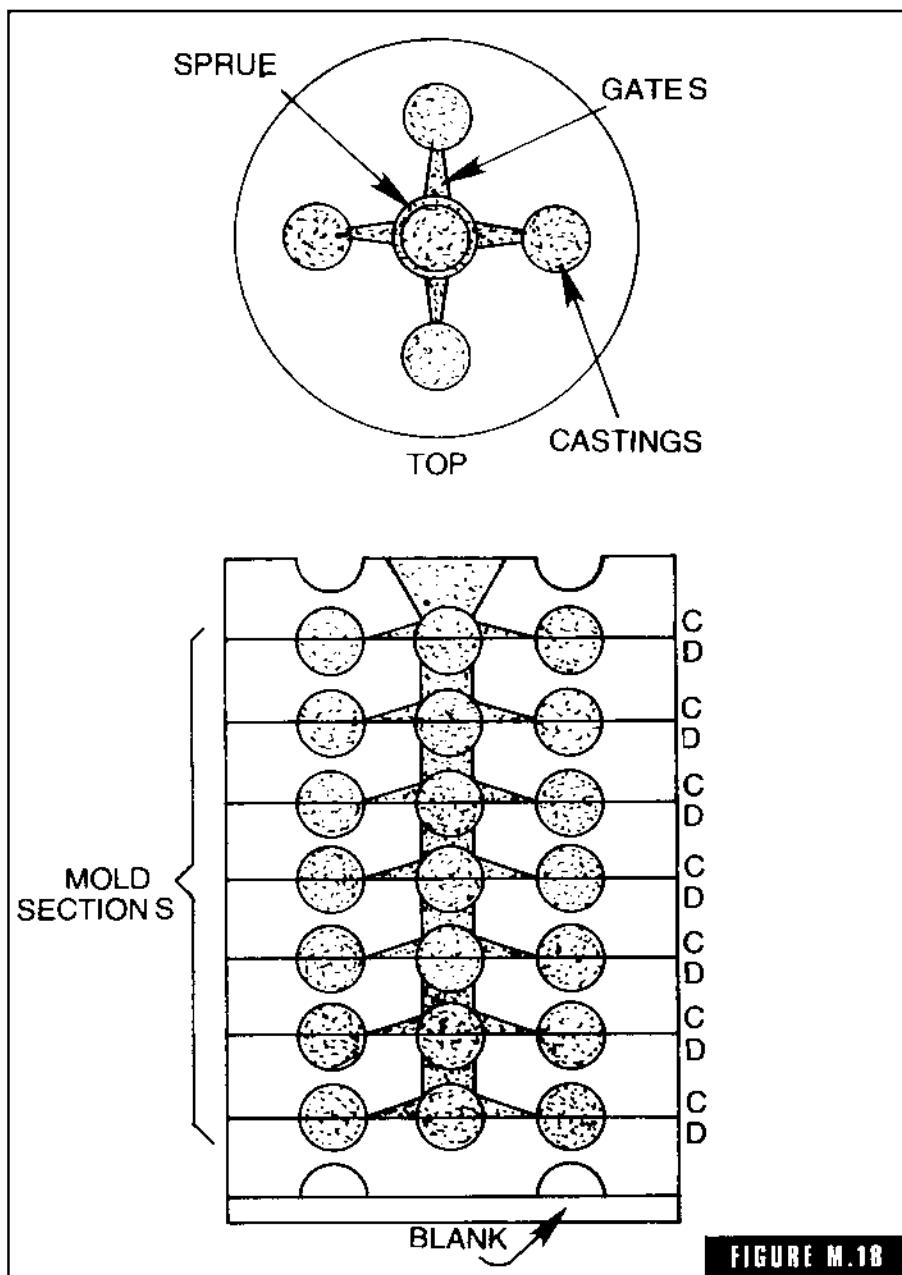

FIGURE M.18
**multiple molds** A composite mold made up of stacked sections. Each produces a complete gate of castings and is poured from a single sprue (Fig. M-18). The top of one section forms the drag of the section above it and the cope of the section below it.